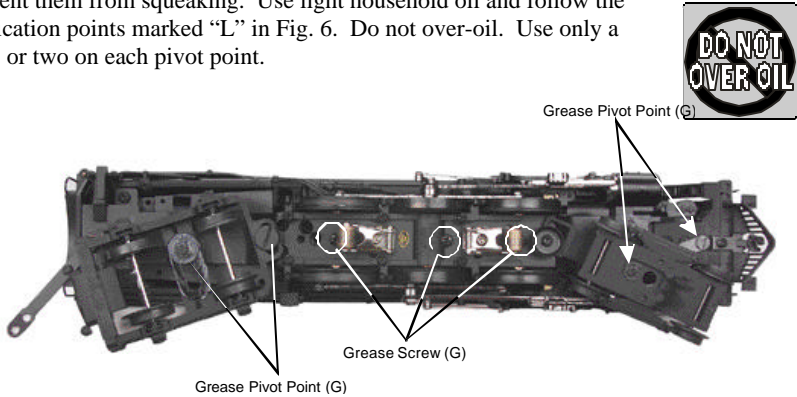
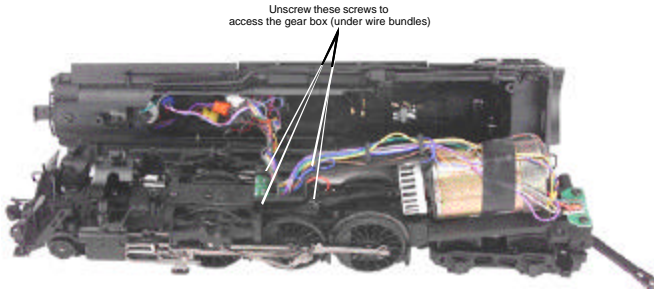

Figure 6: Lubricating The Chassis
Figure 8: Opening The Gearbox
You should regularly lubricate all side rods, linkage components and pickup rollers to prevent them from squeaking. Use light household oil and follow the lubrication points marked “L” in Fig. 6. Do not over-oil. Use only a drop or two on each pivot point.
3. Remove the Phillips screw (marked “GREASE”) located at each set of wheels (Fig. 6) and the gearbox cover screws (Fig. 8).
You should also grease the leading and trailing locomotive truck tongues to enhance their ability to slide on the chassis. Follow the grease points shown on Fig. 6.
1. Remove the boiler from its chassis as shown in Fig. 6 on pg. 13.